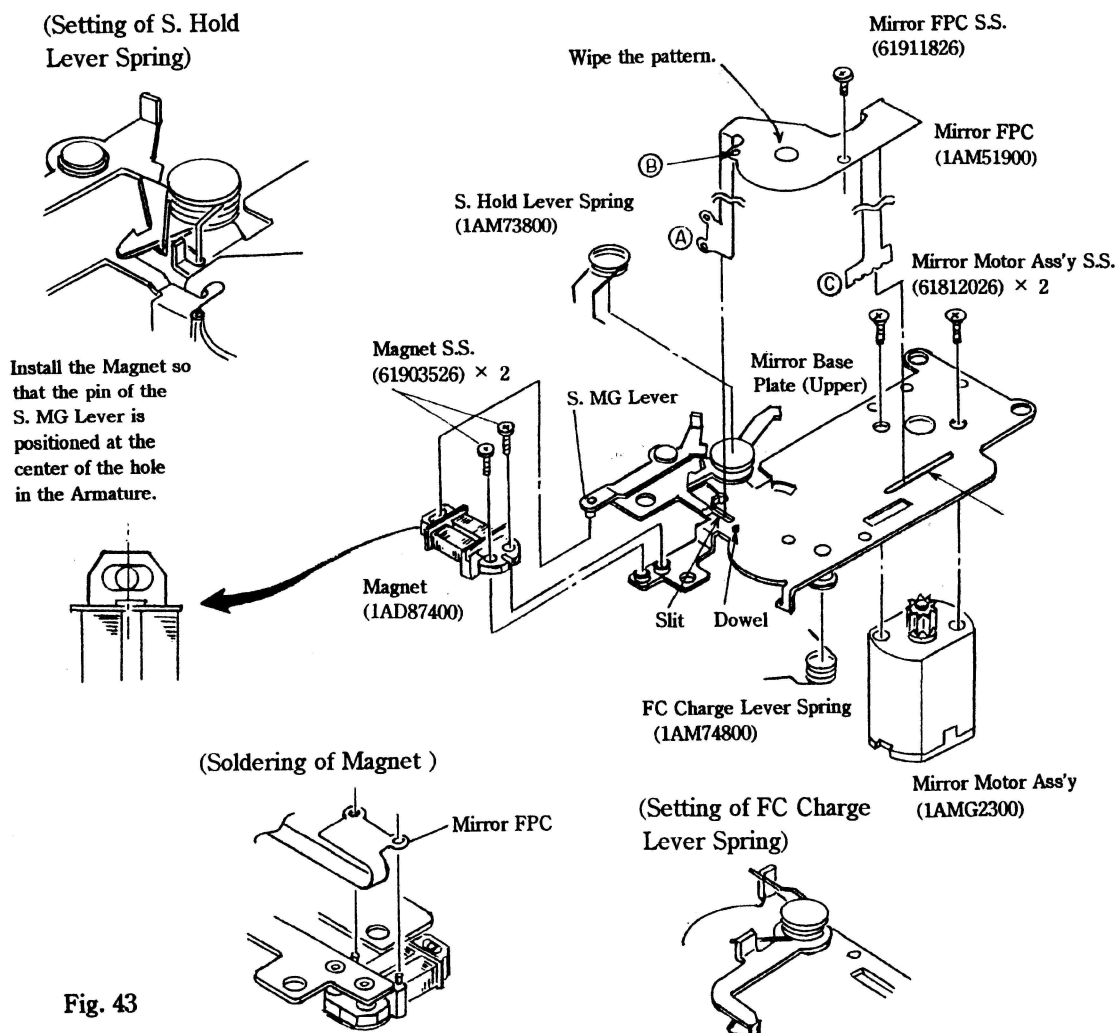

Fig. 43
- 5) Pass the (C) portion of the Mirror FPC through the slot in the Mirror Base Plate (Upper) and bend the Mirror FPC.
- 6) Bend the (A) portion of the Mirror FPC as shown in Fig. 43 and solder it to the terminals of the Magnet.
**Note:** Take care that the roller of the Aperture Lever or S. Charge Lever does not come inside the cam of the Mirror Cam (1).
10) Install the Mirror Gear (2) (1AM71200), Mirror Gear (4) (1AM71400), Mirror Gear (3) (1AM71300) and Mirror Gear (5) (1AM71500) in the named order.
- 12) Wipe the contact pattern on the Mirror FPC with lens cleaning paper with ether alcohol. (See Fig. 43)
- 13) Make certain that the contacts of the Mirror Cam (2) Ass'y are free from fatigue or deformation.